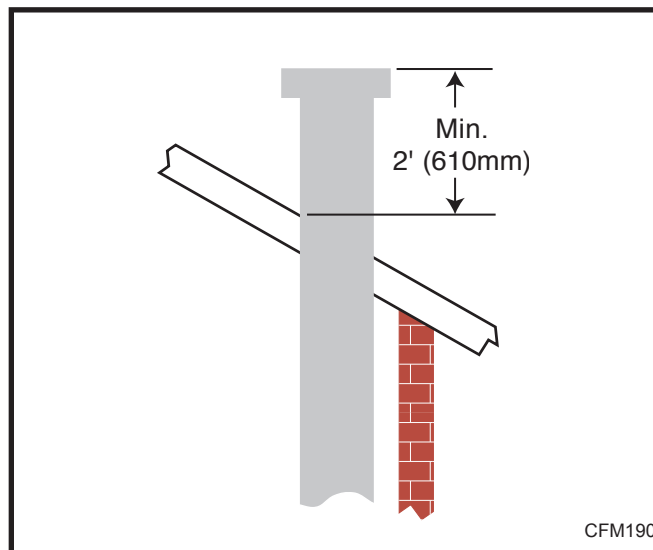

Fig. 39 Minimum termination to roof clearance.
- The minimum height of the vent above the highest point of penetration through the roof is 2' (610 mm). (Fig. 39)
10. Add additional vent lengths for proper height. (Fig. 39)